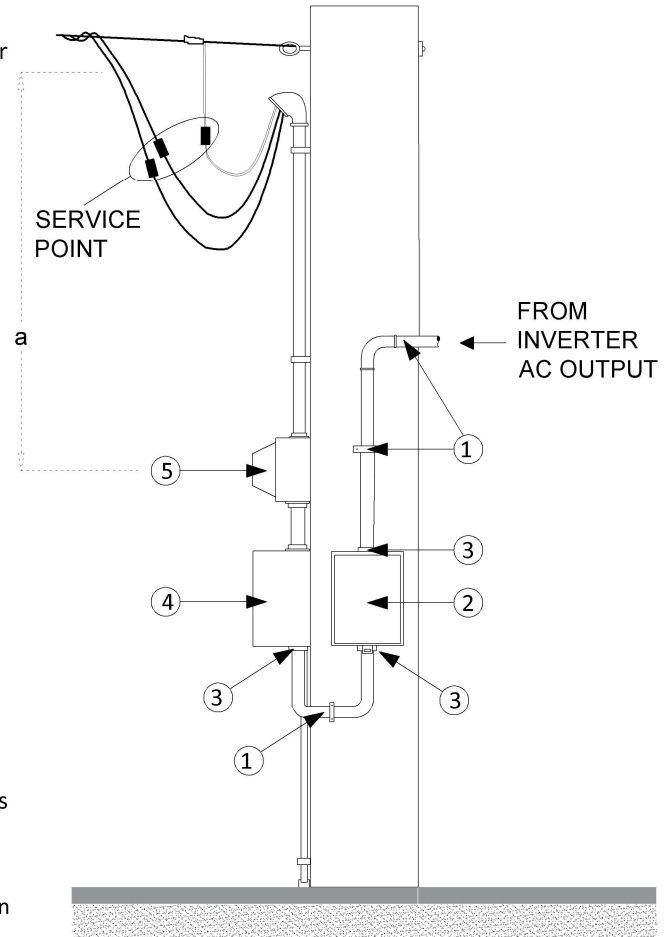

Figure 1 - RE SYSTEM VISIBLE DISCONNECT DEVICE
- ☐ 2. RENEWABLE ENERGY (RE) SYSTEM VISIBLE DISCONNECT DEVICE (See Figure 1)